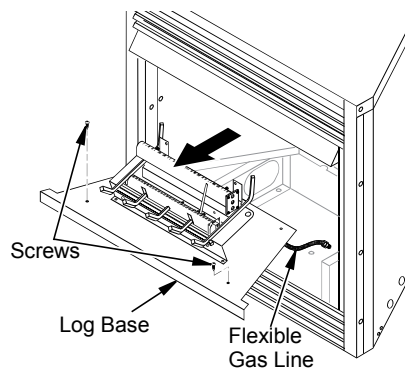

Figure 19 - Removing Log Base from Fireplace
3. Remove screws that attach log base assembly to fireplace. Carefully lift up log base assembly and remove from fireplace, taking care to pull flexible gas line through the access holes (see Figure 19).